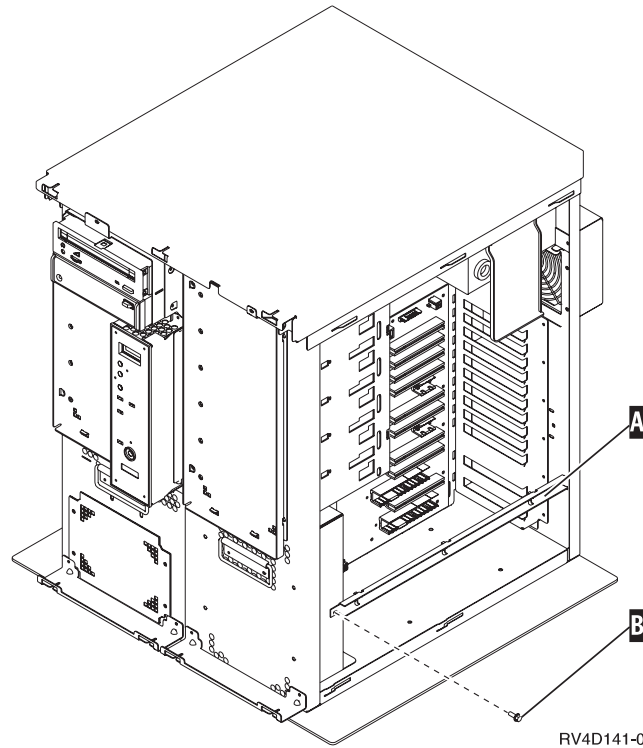

Figure 7. Remove Server Card Bracket from Expansion Unit
__ 40. Remove the card bracket **A** from slot E04 by removing the screw **B** (Figure 7).
- a. Insert the bracket **A**, (Figure 7 on page 15), into the right side of the system unit.